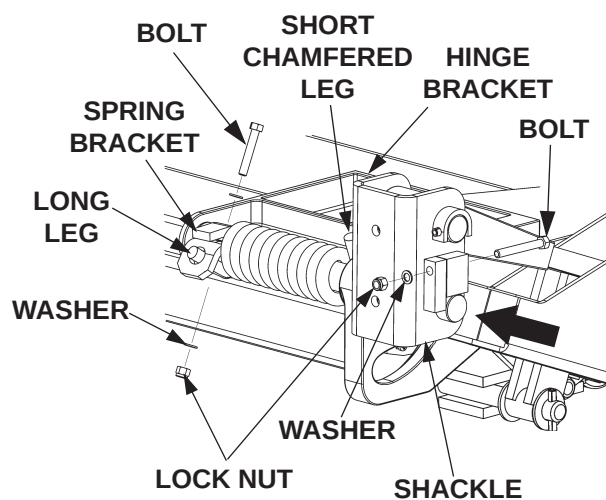

FIG. 21-1
5. Install the Torsion Spring as shown in **FIG. 21-1**. Make sure the long leg of the spring is inserted in the Spring Bracket (**FIG. 21-1**). Make sure the short end of the spring is visible and resting against the Hinge Bracket (**FIG. 21-1**).
6. Drive the Hinge Pin into correct position through the Hinge Bracket as shown in **FIG. 21-1**. Line up the bolt hole in the Hinge Pin with the hole in the Shackle and Spring Bracket. Bolt the Hinge Pin to Hinge Bracket and Spring Bracket with bolts, washers, lock nuts (**FIG. 21-1**). Torque the 3/8"-16 Spring Pin bolt and 3/8"-16 Spring Bracket bolt **35 to 52 LBS.-FT.**